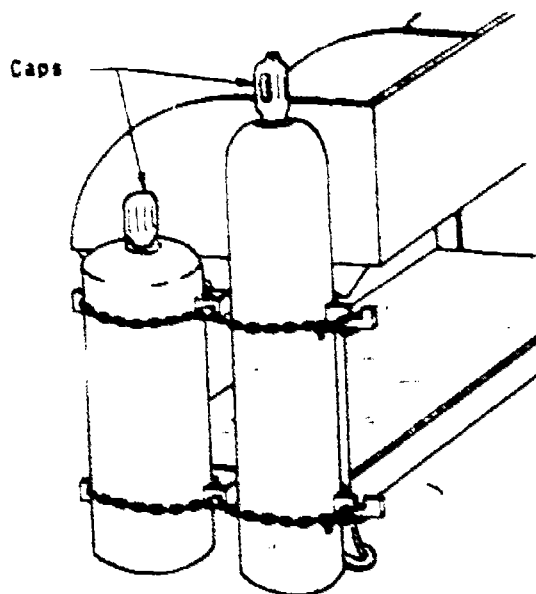

Figure 9.     Securing the Cylinders
1. Place the oxygen and acetylene cylinders at the end of the workbench with the acetylene in front of the oxygen (see figure 9).
2. Chain the cylinders separately as illustrated in figure 9.
3. Remove the cylinder caps (see figure 9) from both cylinders.